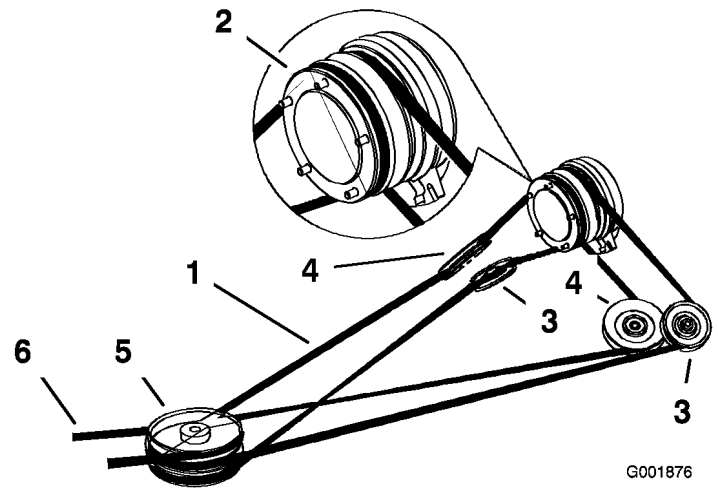

Figure 63
4. Pull on the spring loaded idler pulley to loosen the belt tension (Figure 63).
5. Remove the mower belt from the top pulley of the three stacked pulleys (Figure 61 and Figure 63).
7. Install the new drive belt around the clutch pulley, the adjustable idler pulleys, the spring loaded idler pulley, and the front three stacked pulleys (Figure 63).
9. Install the mower belt around the mower pulleys and the top pulley of the three stacked pulleys (Figure 61 and Figure 63).